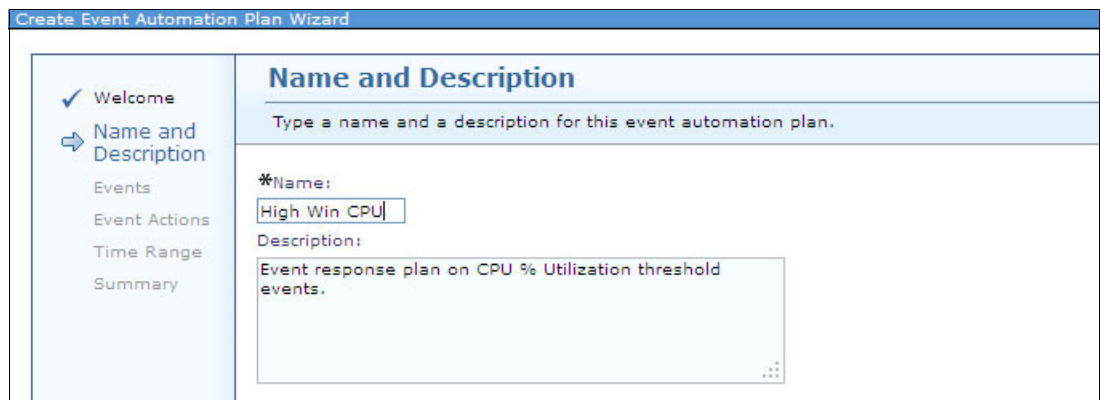

Figure 7-49 Create Event Automation Plan Wizard Name and Description window
9. Enter a name and description for the event automation plan, as shown in Figure 7-49.